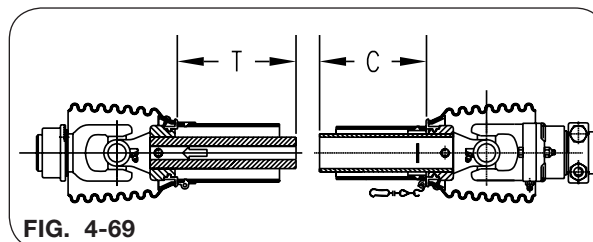

FIG. 4-69
2. Pull apart PTO telescoping shaft ends and measure lengths "T" & "C" (Fig. 4-69)